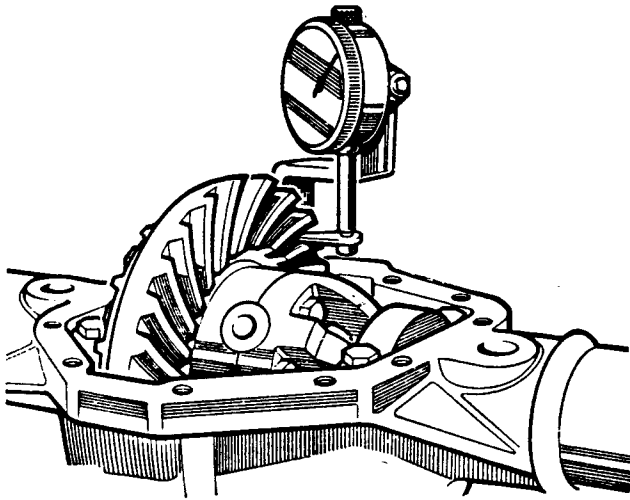

Fig J2.7
- (5) Refer to Fig J2.7. Mount a dial gauge on the axle casing with the stylus resting on a crownwheel tooth.
- (6) Prevent the drive pinion from rotating and check the crownwheel backlash which must be 0,15 to 0,27 mm.
- (7) Fit the differential cover and new gasket. Torque load for fixings is 28 to 35 N.m.
- (8) Fit the rear axle assembly (see Sub-sub-section J1.4, Chapter 2).